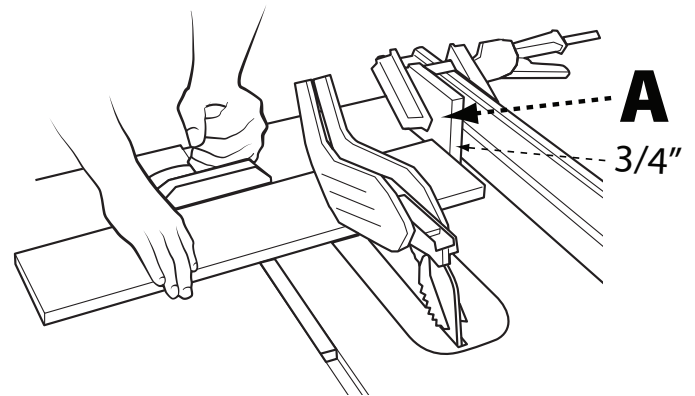

FIGURE 33
When crosscutting a number of pieces to the same length, you can clamp a block of wood (A) (See Figure 33) to the fence and use it as a cut-off gauge. The block (A) must be at least 3/4-inch (19 mm) thick to prevent the cut off piece from binding between the blade and the fence. Once the cut-off length is determined, lock the fence and use the miter gauge to feed the workpiece into the blade.